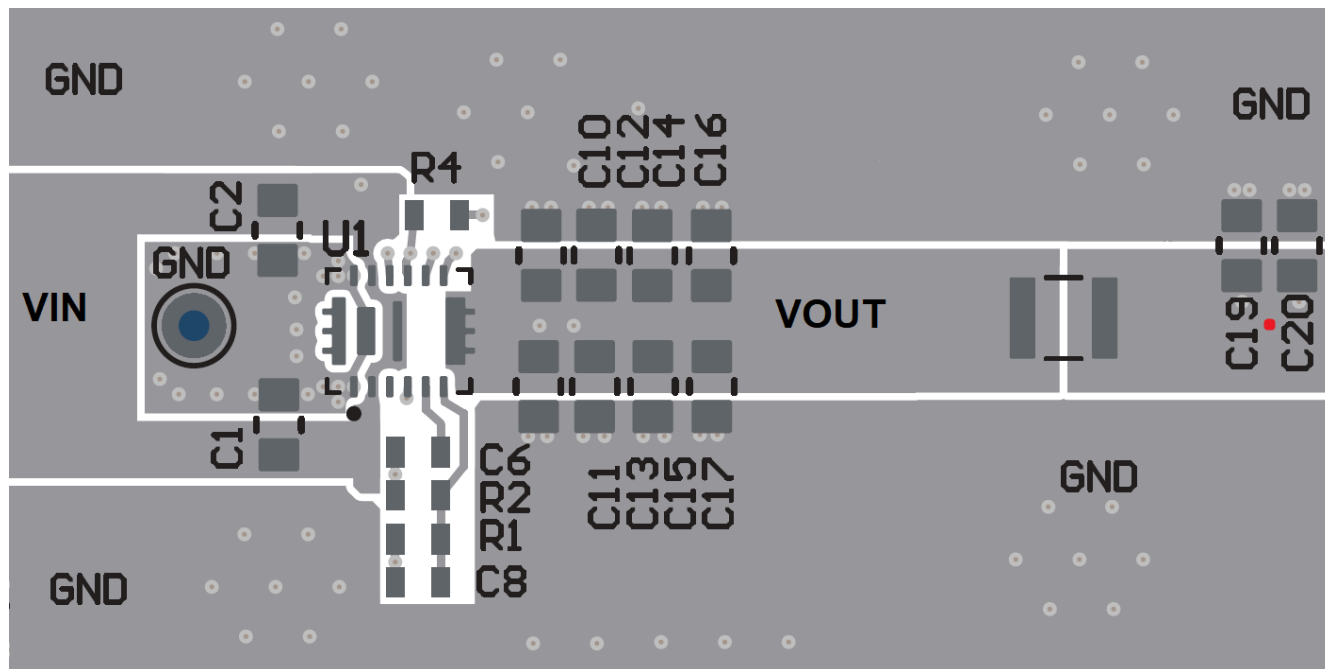

Figure 7-21. Recommended Layout for Design with Second L-C Filter
- Avoid placing the ferrite bead in the keep out region as shown in Figure 7-21
- See the recommended layout implemented on the EVM and shown in the EVM user's guide, TPSM82916 Step-Down Converter Evaluation Module EVM user's guide, as well as in Figure 7-21.